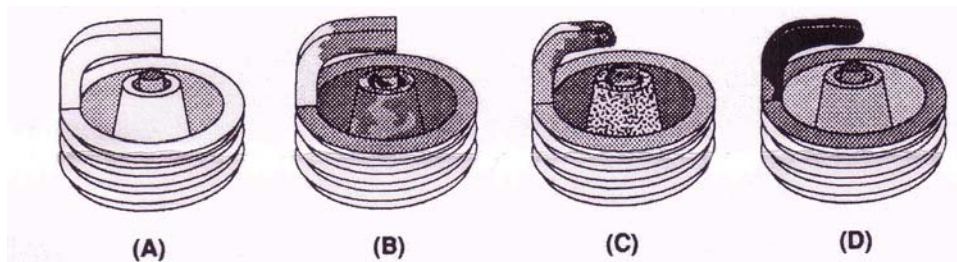

FIG. 11
- 2) Perform a dynamometer pull or a full throttle pass down the racetrack. Note the power reading or vehicle MPH (not ET). Examine the spark plugs for the indication of lean or rich nitrous/fuel conditions (refer to Figure 11 for tips on reading the spark plugs).
6. Perform a dynamometer pull or a full throttle pass down the racetrack. Note the power reading or vehicle MPH at the track. Examine the spark plugs for signs of detonation (refer to figure 11 for tips on reading spark plugs).